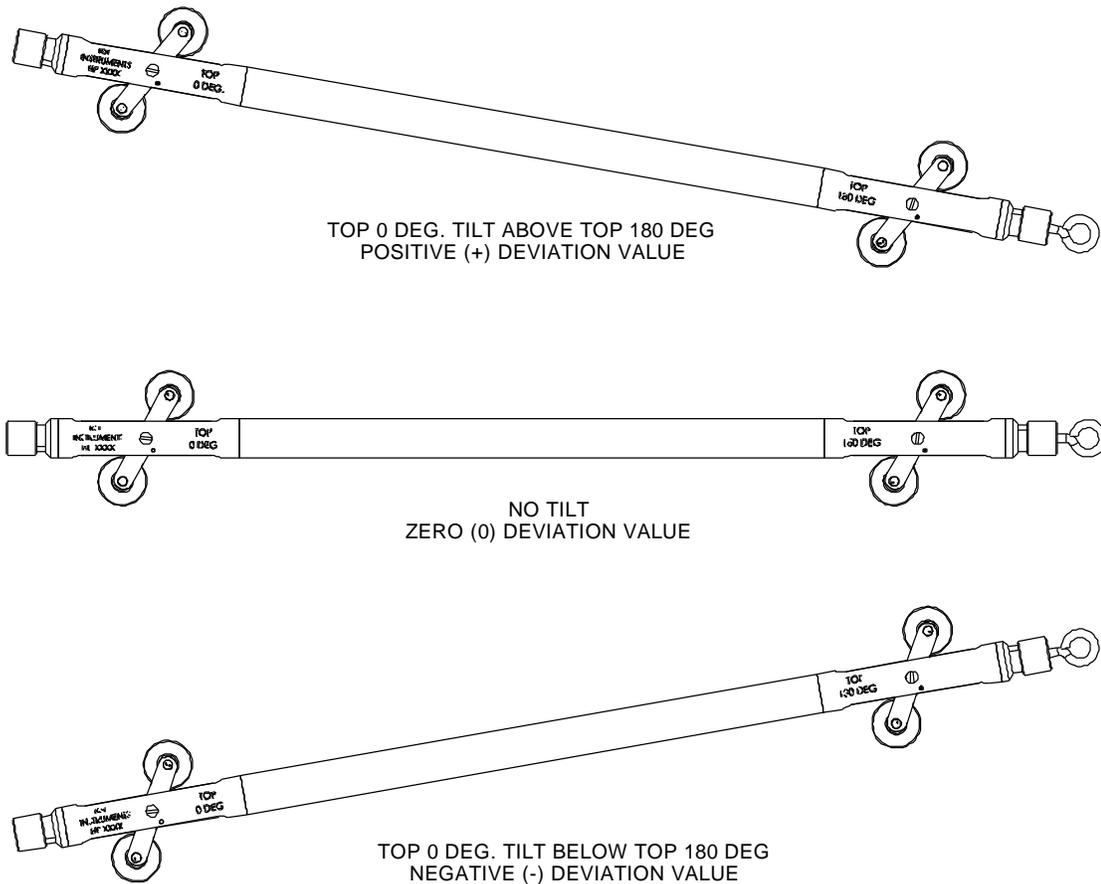

Figure 8 – Tilt Sign Convention
- Verify that the probe's signal increases or decreases as its rotate with respect to the horizon axis. A positive deviation is given when the MEMS Horizontal Probe rotate clockwise along horizontal axis (See Figure 8). If the system is not functioning as expected, contact RST Instruments Ltd. for technical support.
Rotation clockwise along horizontal axis (when the TOP 0 DEG end is toward you) results in a positive deviation and rotation counterclockwise along horizontal axis (when the TOP 0 DEG end is toward you) results in a negative deviation (see Figure 8).